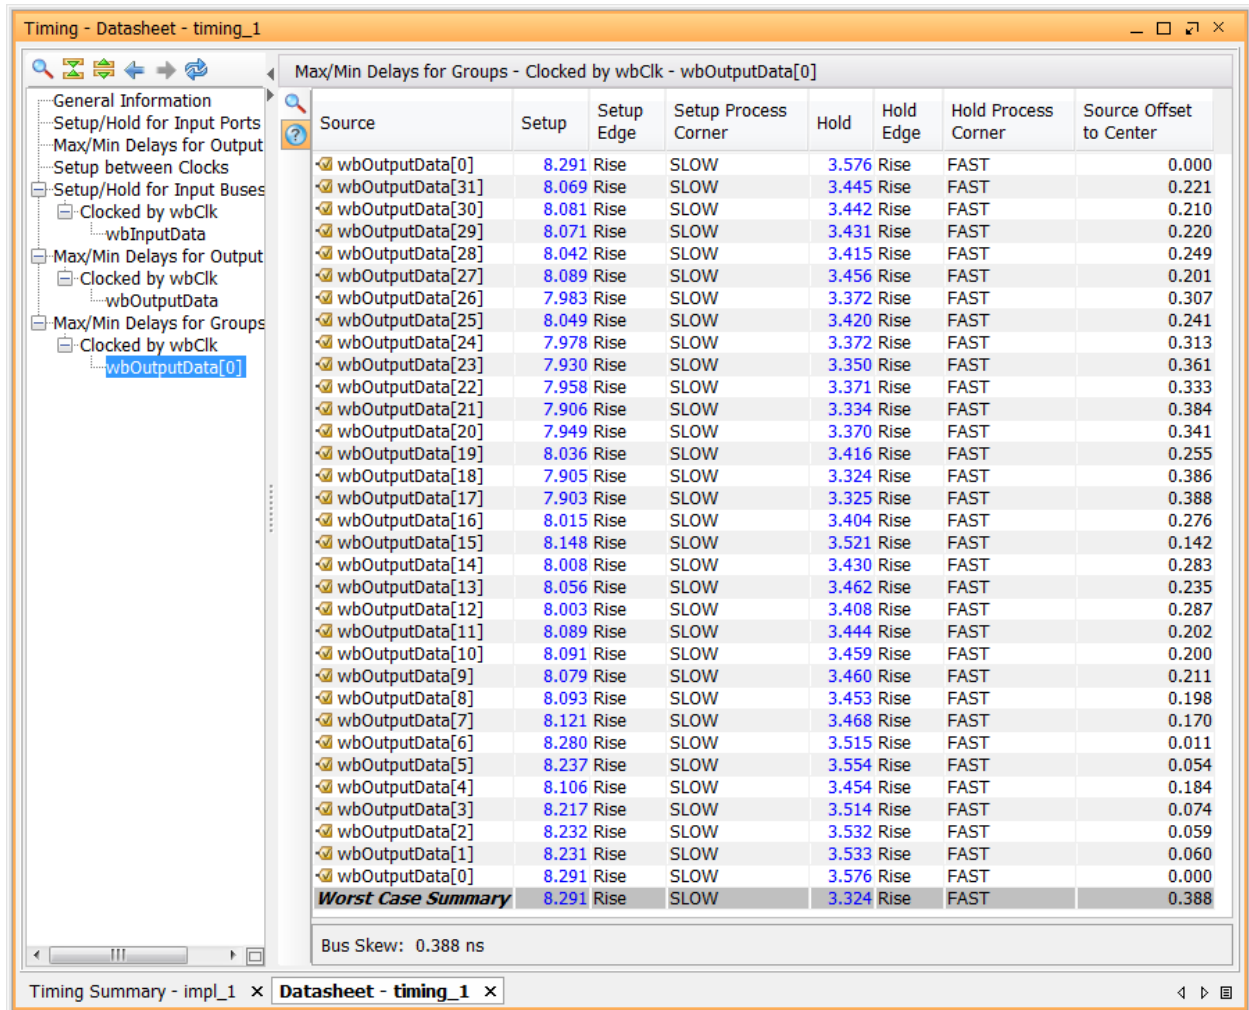

Figure 35: Report Datasheet Results
5. Select the **Max/Min Delays for Groups > Clocked by wbClk > wbOutputData[0]** section, as seen in Figure 35.